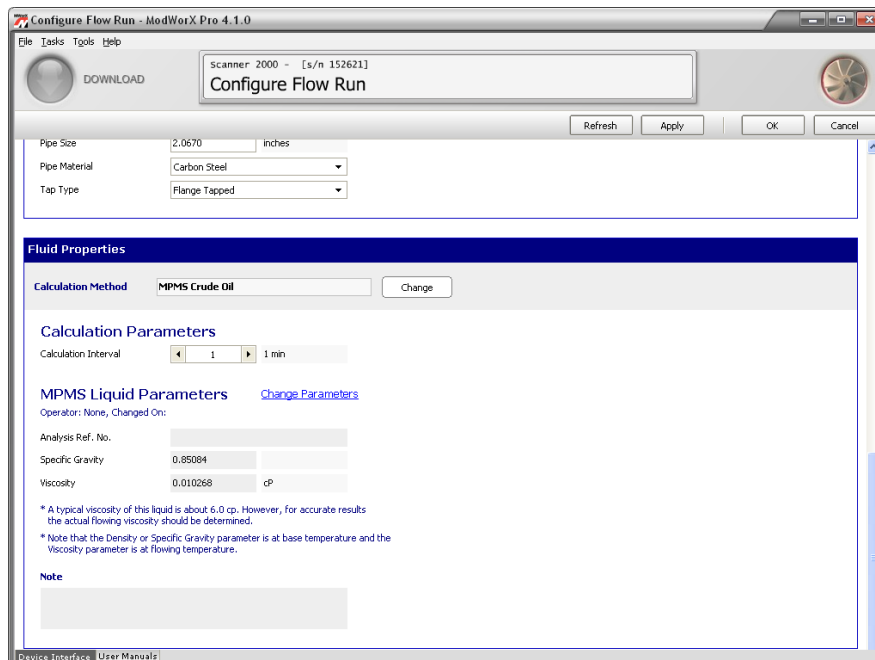

Figure 4.16
- If the flow run is configured for liquid measurement, Liquid Parameter settings will be displayed (Figure 4.16, page 66). Edit the parameters as necessary. To change a parameter, click on the blue **Change Parameters** hyperlink and follow the screen prompts.